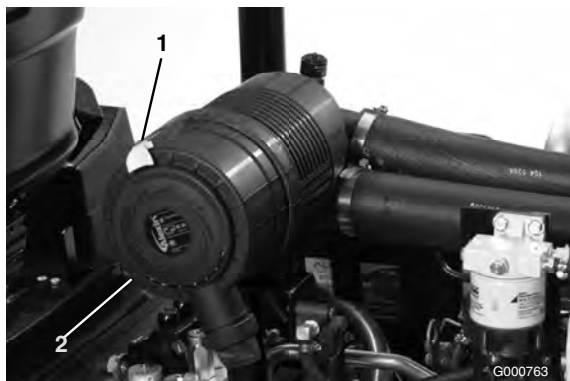

Figure 53
1. Pull the latch outward and rotate the air cleaner cover counterclockwise (Figure 53).